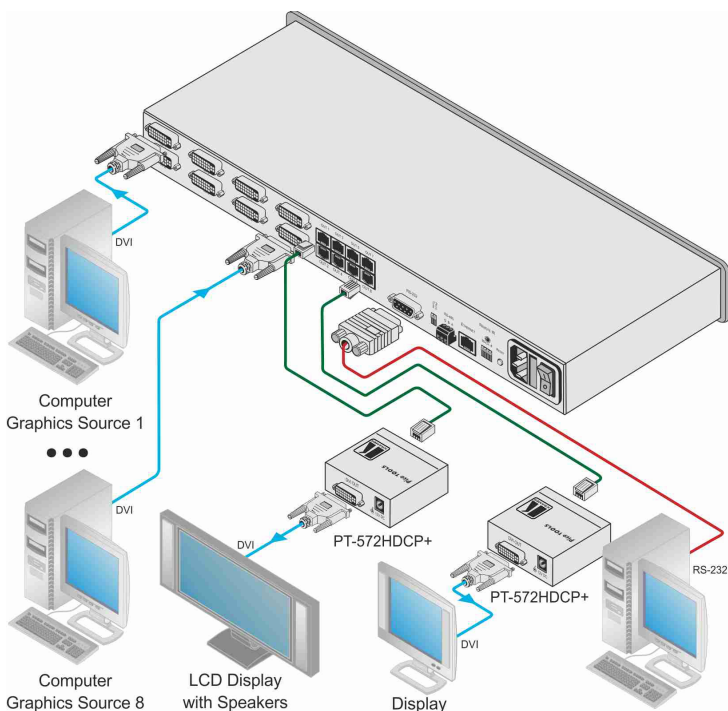

Figure 3: Connecting the VS-88DTP 8x8 DVI - Twisted Pair Matrix Switcher
To connect the **VS-88DTP** as illustrated in the example in Figure 3:
4. Connect the power cord (not shown in Figure 3).